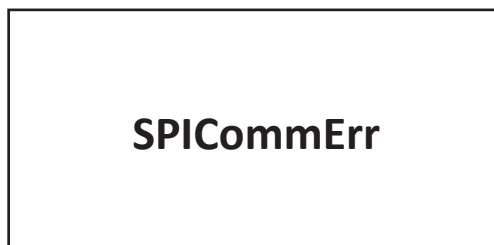

Figure 6-4 Fault indication interface
(4) Fault mode, as shown in Figure 6-4: